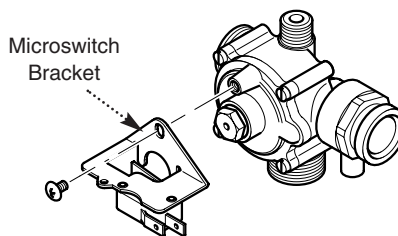

Fig. 60
12.20 Central Heating Differential Valve (Figs. 60 & 61)